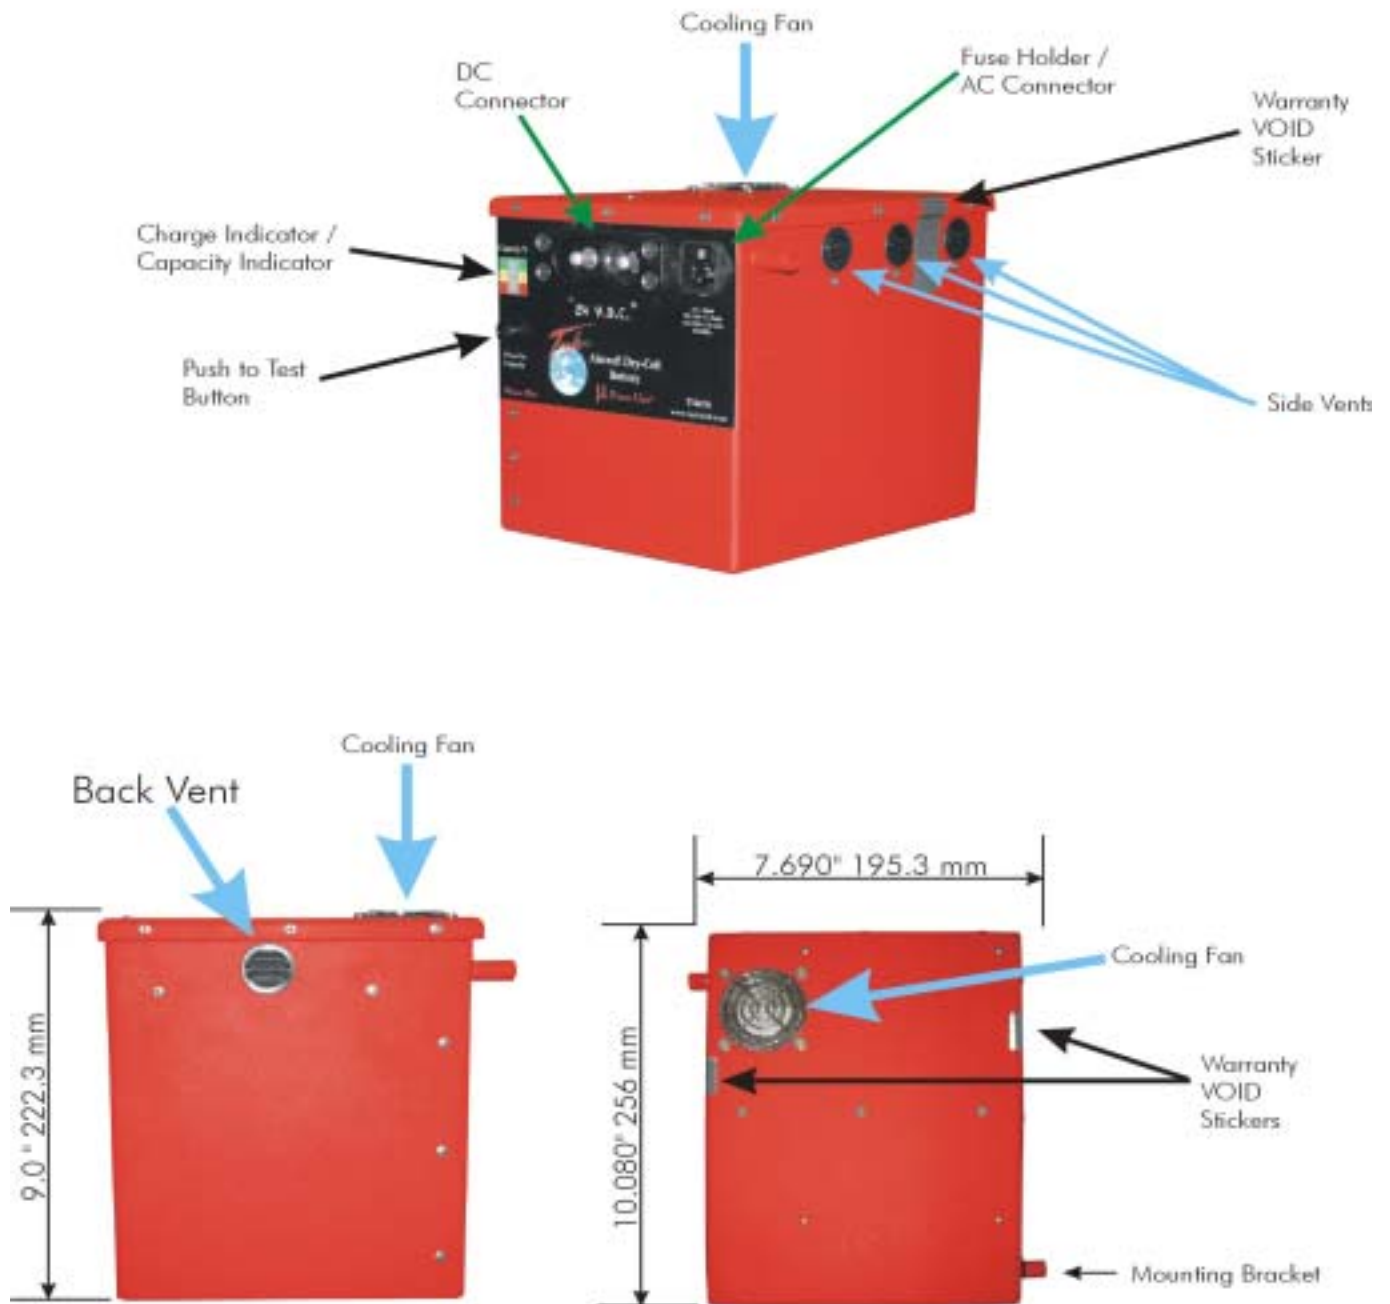

Fig 2-1
The TI4676 (Figure 2-1) is a compact, portable and highly versatile 24/28.5 VDC electrical MPU. The unit incorporates a 120-240 50/60 Hz to 28.5 VDC converter, a 24 volt unique (dry) power cell and an internal intelligent 120-240 50/60 Hz VAC charger to recharge the power cells. In addition the MPU incorporates a push to test button which gives the user the ability to test the capacity of the power cells. These built-in features give the TI4676 self-sufficiency in an aircraft battery, and long term ground operations with AC electrical power. Aircraft battery operations rely on the unique dry-cell batteries that can be rapidly recharged from the aircraft generator or any common 120-240 50/60 Hz VAC source. Ground operations incorporate the continuous 12 Amp output of the 120-240 50/60 Hz VAC to 28.5 VDC converter, or a combination of converter and power cell output to provide 24 VDC output. The following are the unit's five (5) main operational support capabilities: